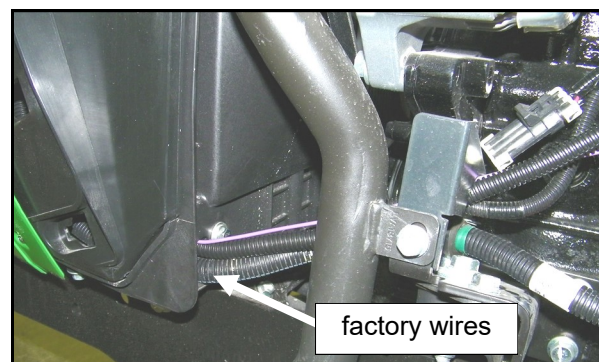

Fig. 2.3 (Wire Harness - Left Side of Engine Bay)
2.2 Run the wires onto top of factory wire loom found on the lower left side of engine bay. See Fig. 2.3.